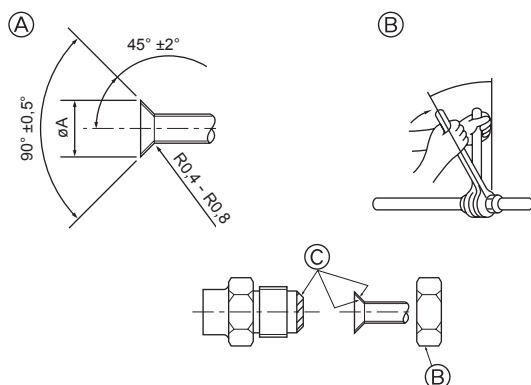

Fig. 3-2
3.2. Rohranschlüsse (Fig. 3-2)